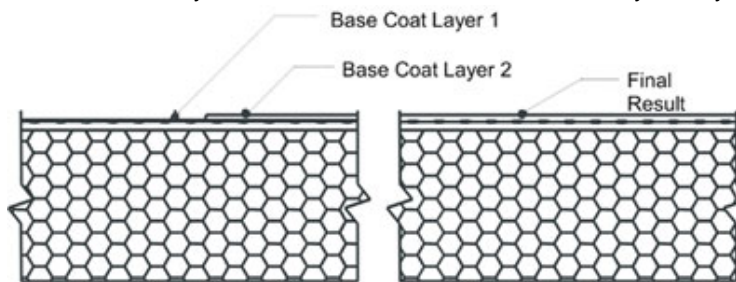

Figure 31
- a. The Base Coat shall be applied such that the resulting overall minimum base coat thickness is sufficient to **fully embed** the reinforcing mesh. The recommended method is to apply the base coat in two (2) passes.
- 3) Allow the Dryvit Base Coat mixture to take up until firm to the touch. Trowel a second tight coat of the Dryvit Base Coat mixture over the first coat to **fully cover** the Dryvit Reinforcing Mesh - Figure 31. The result should be such that the Dryvit Reinforcing Mesh is approximately centered within the Dryvit Base Coat thickness. Do not allow the first pass to completely dry prior to the second pass application or an excessive amount of the Dryvit Base Coat mixture will be necessary to fully coat the wall surface.